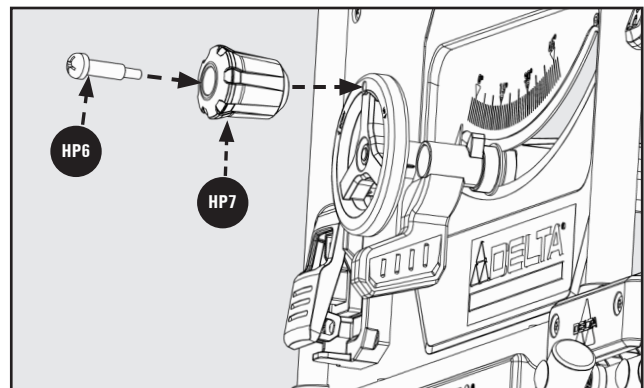

Figure 12
1. Insert Handwheel Shoulder Screw (HP6) into Height Adjustment Knob (HP7) as shown in Figure 12.